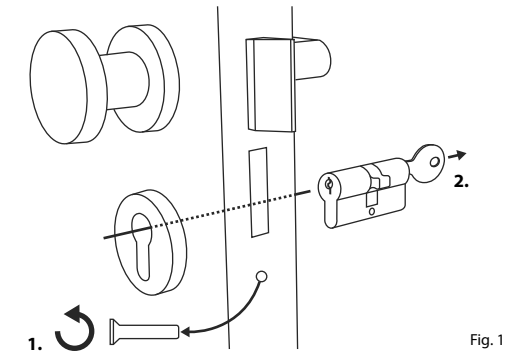

Fig. 1
① Remove the existing door lock cylinder by loosening the forend screw in the door and pulling out the cylinder with the key inserted (Fig. 1).